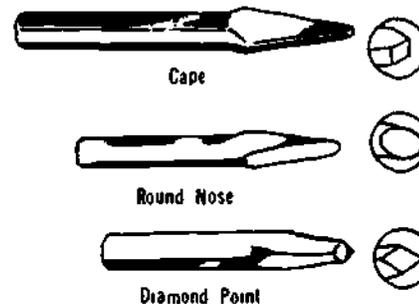

Figure 1-90. Types of Steel Chisels
a) The round-nose, cape, and diamond-point all-steel chisels are shown in Figure 1-90.